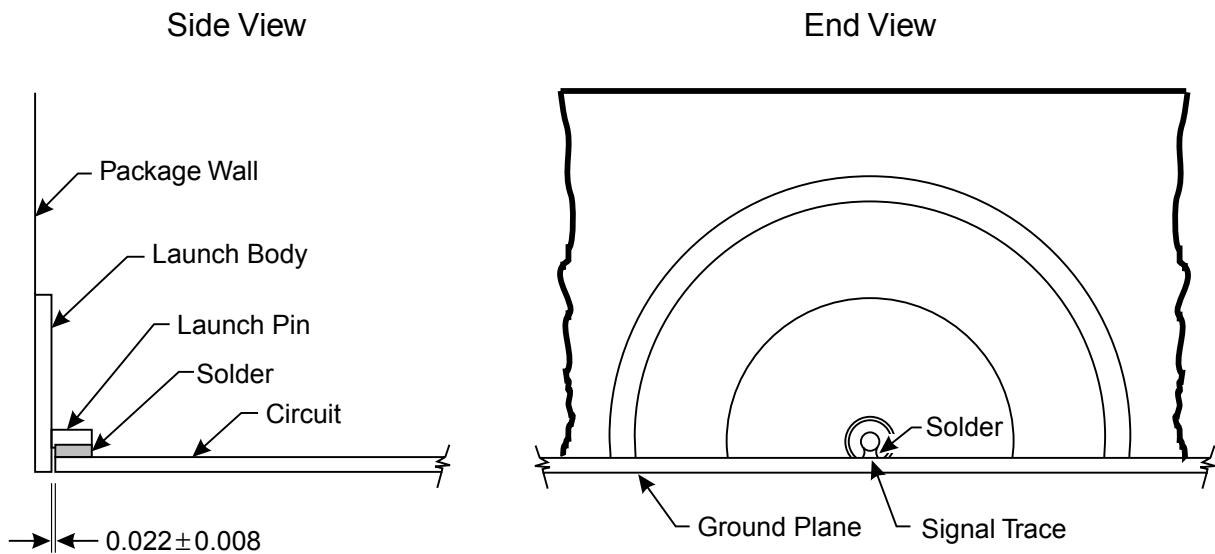

Figure 3-2 Circuit Mounting Detail
2. For the best match, place the edge of the circuit 0.022 ± 0.008 mm from the end of the outer body of the launch. Refer to Figure 3-2.